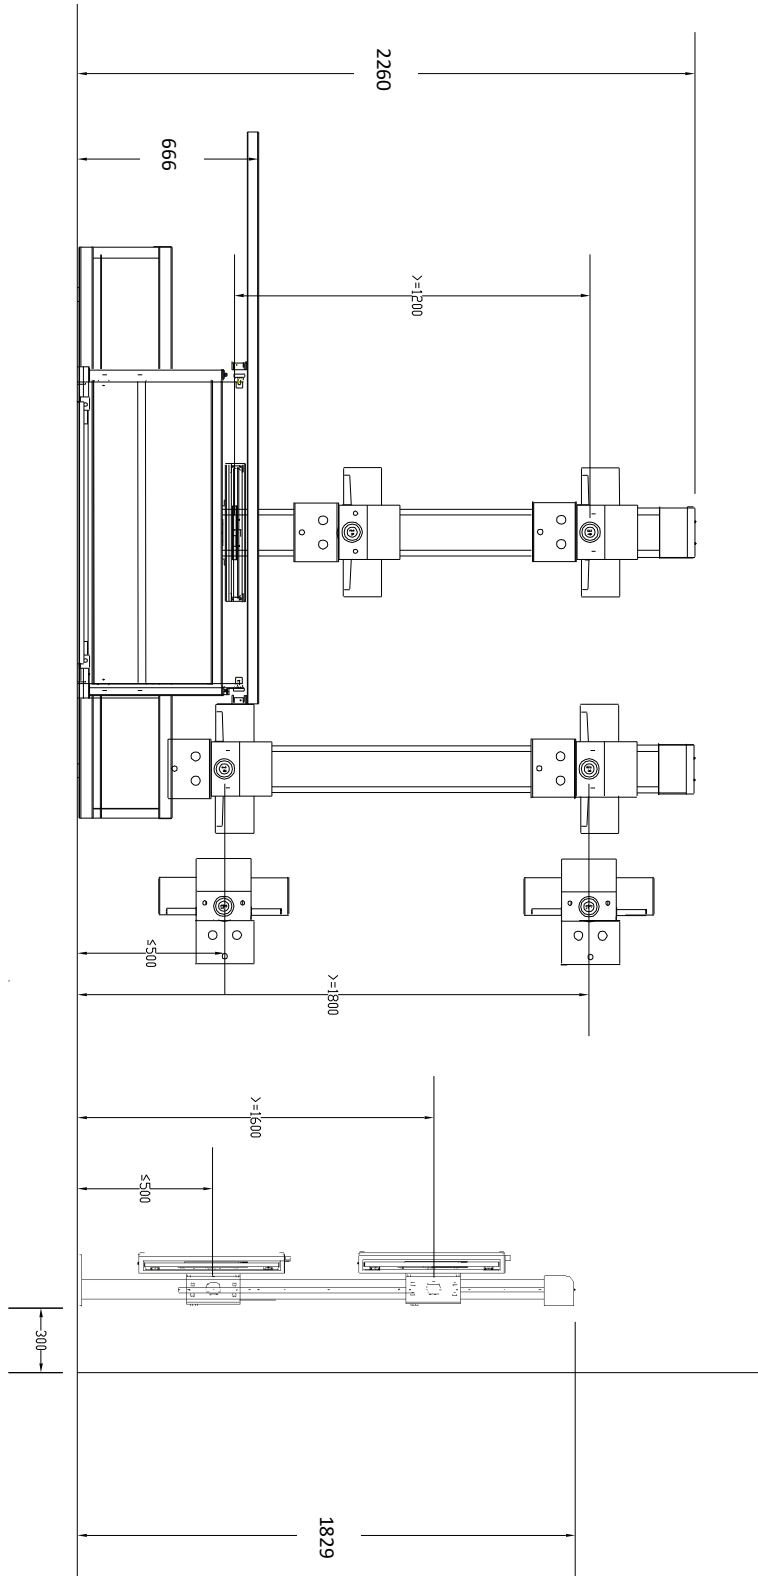

Figure 5-1 System Views (Standard)
- System - Figure 5-1 through Figure 5-2